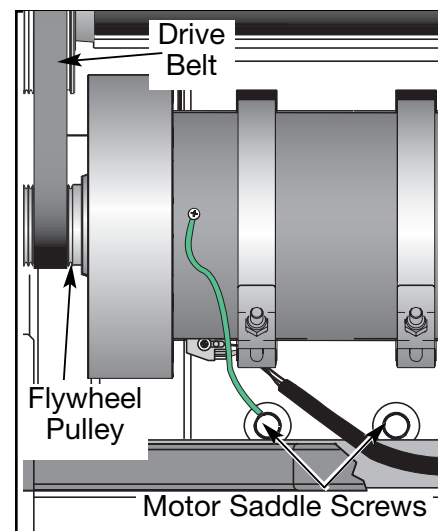

Figure 8
- A. Using a 1/2" socket wrench, loosen but do not remove the two screws on the motor saddle. See Figure 8.
- A. If you are changing the drive belt, slip the drive belt around the flywheel pulley and off the motor. See Figure 8.
- A. Using a 1/2" socket wrench, tighten the two screws on the motor saddle. See Figure 8.
- B.** Using a 9/16" socket wrench with a 3" extension, remove the two front roller screws. See Figure 8.